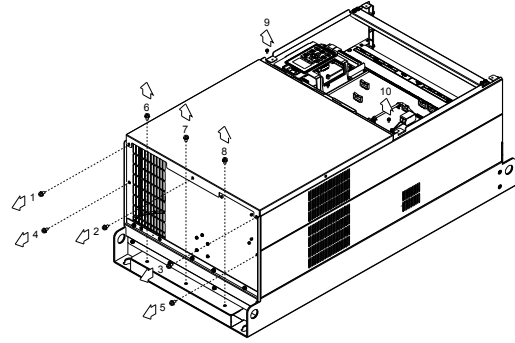

Figure 2
- (2) For 1~8 shown in the figure 2: Loosen the screws
- For 9~10 shown in the figure 2: Loosen the screws and removes the cover. Screw M4 torque: 14~16 kg-cm / [12.2~13.9 lb-in.] / [1.4~1.6 Nm]